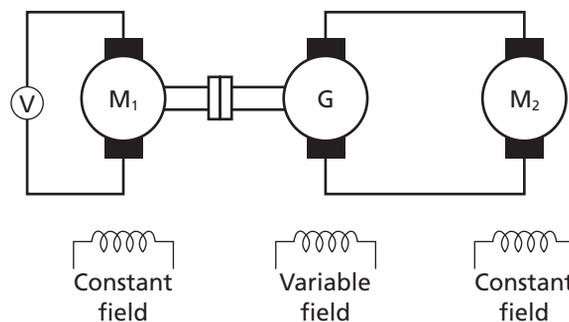

Figure 1.4 Ward-Leonard control system
A Ward-Leonard control system is used for precision speed control. A good example is its use in elevators. It can be seen in Figure 1.4 that it is a combination of a motor (M_1) that is mechanically coupled with a generator (G), connected in parallel with the DC motor (M_2) in question, whose speed needs to be controlled. M_1 has constant speed and can either be an AC motor or a DC motor. The generator output is connected to the armature of motor M_2 . By varying the output voltage of the generator through its field regulator, the armature voltage of motor M_2 is changed accordingly. This results in a very smooth speed control.